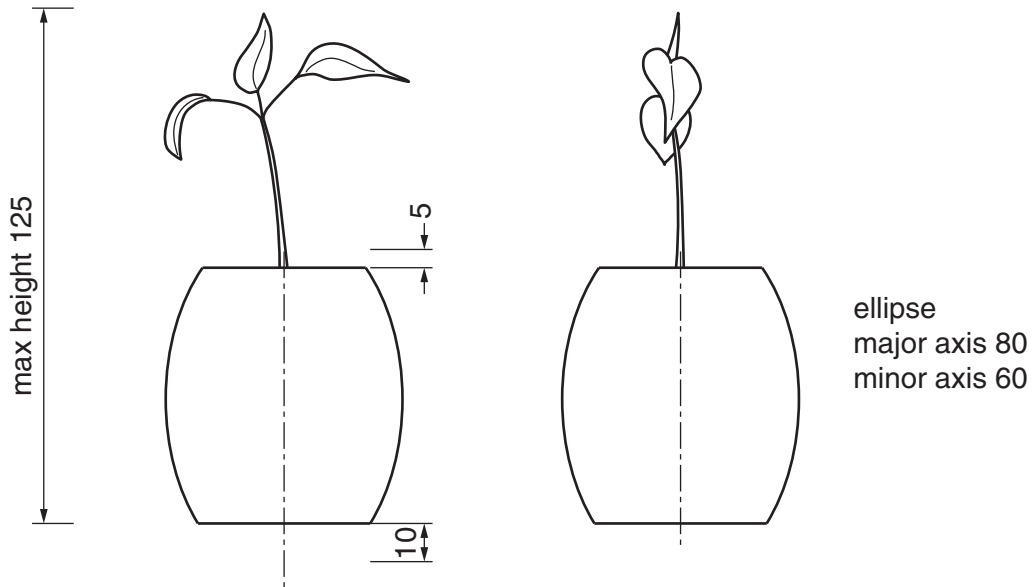

Fig. 7
- 8 Fig. 7 shows a plant and plant holder for which point of sales packaging is required.